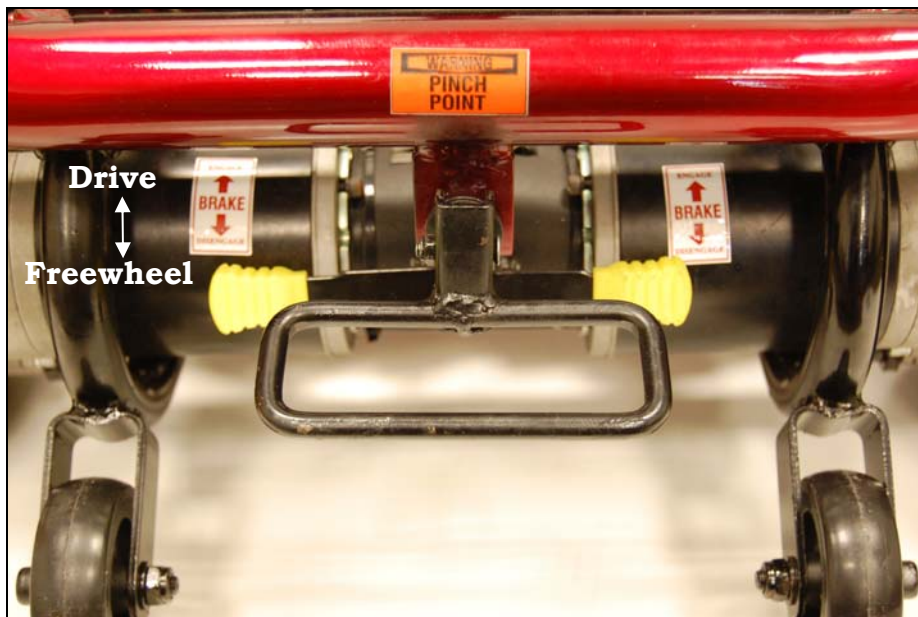

Figure 16
- ◆ To disengage the brakes and put your power chair in freewheel mode, push the freewheel levers down. See figure 16.
- ◆ To re-engage the brakes and take your chair out of freewheel mode, pull the freewheel levers up. See figure 16.